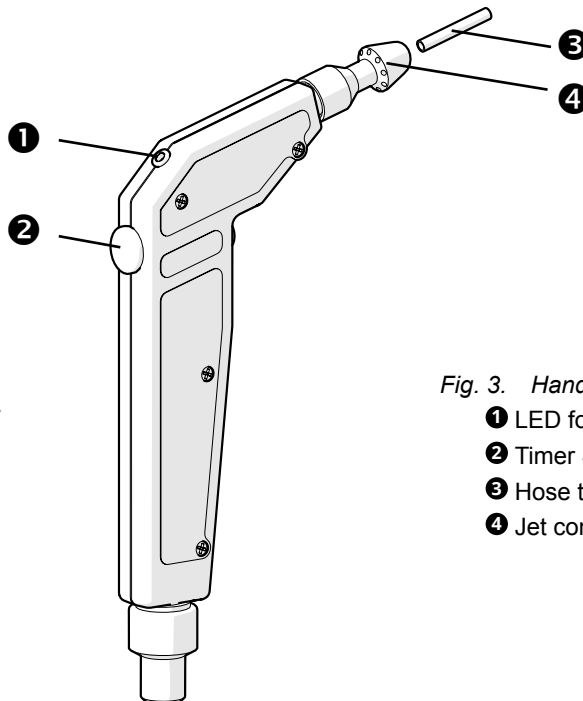

Fig. 3. Handle
- ↳ LED on handle (Ⓔ, fig. 3) lights up during thermal stimulation.